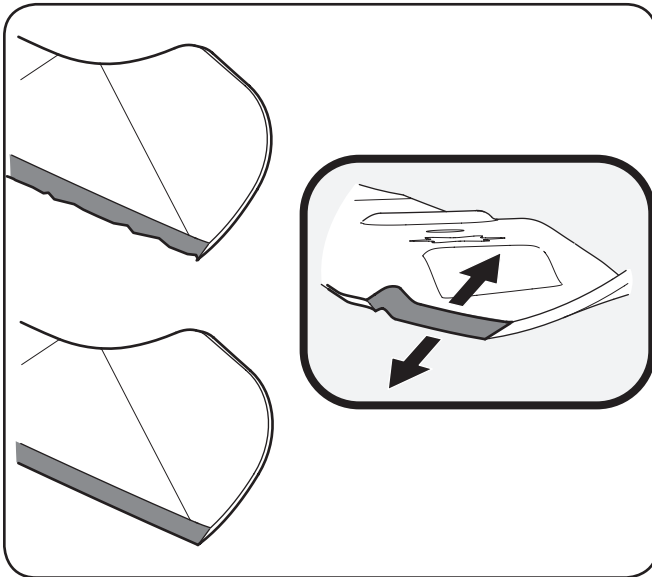

Figure 7-5
4. To properly sharpen the cutting blades, remove equal amounts of metal from both ends of the blades along the cutting edges, parallel to the trailing edge, at a 25°- to 30° angle. Always grind each cutting blade edge equally to maintain proper blade balance. See Figure 7-5.